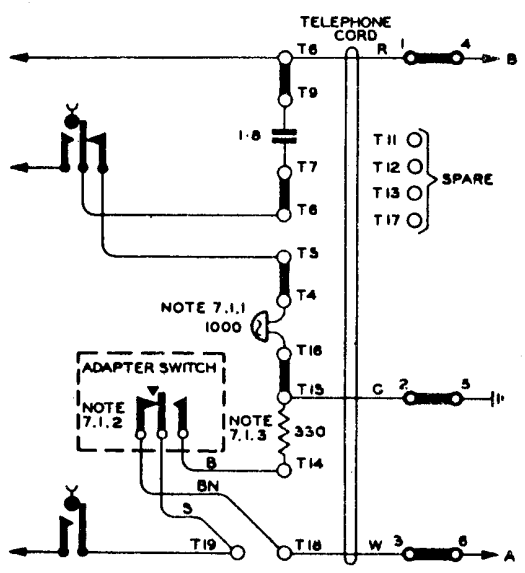

FIG. 10
7.1 Assembly of telephone with revertive call key Fig. 10 and 11.
7.1.2 Fit adapter switch HC 110 (non-locking), with label HC 109.... (colour) to mounting bracket in telephone, remove dummy button from case. Connect leads as shown in Fig. 10 or 11.
7.2 Connections for an "X" station are shown in Fig. 10 or 11.